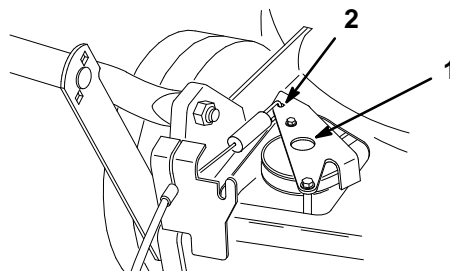

Figure 24
4. Push the drive bracket down until it contacts the lawn mower, then hold it in place (Fig. 24).